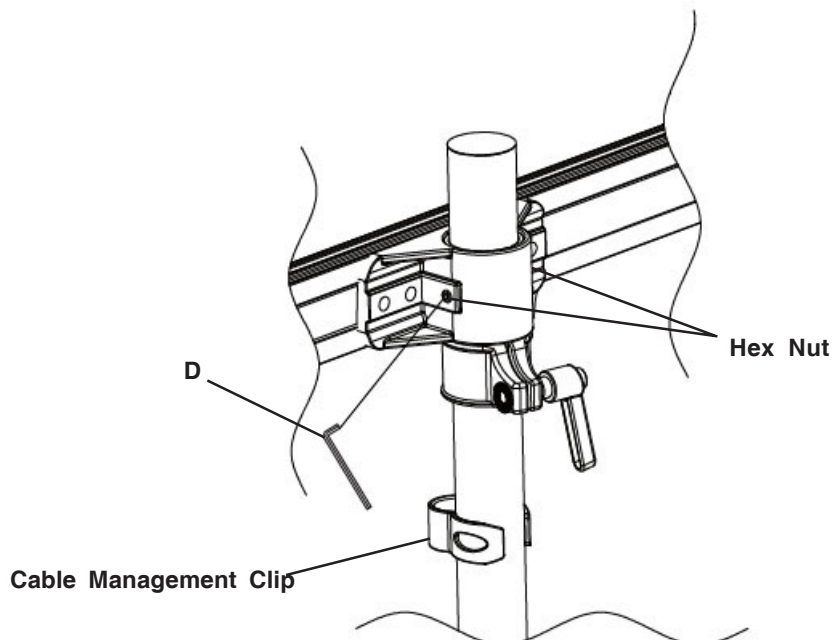

Figure 2C
3. Secure the Arm Assembly by tightening the two **Hex Nuts** finger tight using the included **3mm Allen Key (D)** as shown in **Figure 2C**. Next, install the **Cable Management Clip** onto the tube support, see **Figure 2C**.